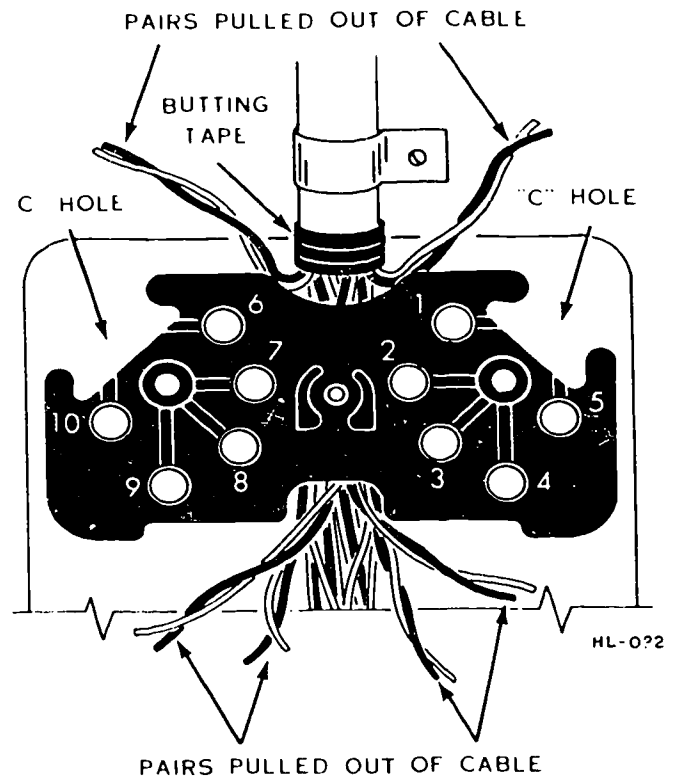

Figure 3-11. Fanned cable at 44A connecting block.
Another fanning arrangement is shown in figure 3-11. It shows the fanning arrangement at a 44A connecting block. You can see the fanning pairs for terminals 1, 2, 6, and 7 pulled out above the connecting block. Below the illustrated connecting
6. Which conductors in figure 3-11 must be kept long?
Connecting Block and Cord Termination. Terminating conductors on a connecting block is comparable to the 30 type terminal. However, before you can tighten any screw against the washer you must install the connecting blocks. To illustrate, we previously described fanning of the wires at the 44A block (No. 4). After having pulled the proper wires, you mount the 44A terminal block on the backboard. This terminal block fits above many pairs of conductors (all except the ones which you fan out are to remain under the block). Review figure 3-11 to see the two pairs that do not lie under the block. The block of figure 3-11 also reveals that the C holes must be at the top when mounting the 44A block. Be